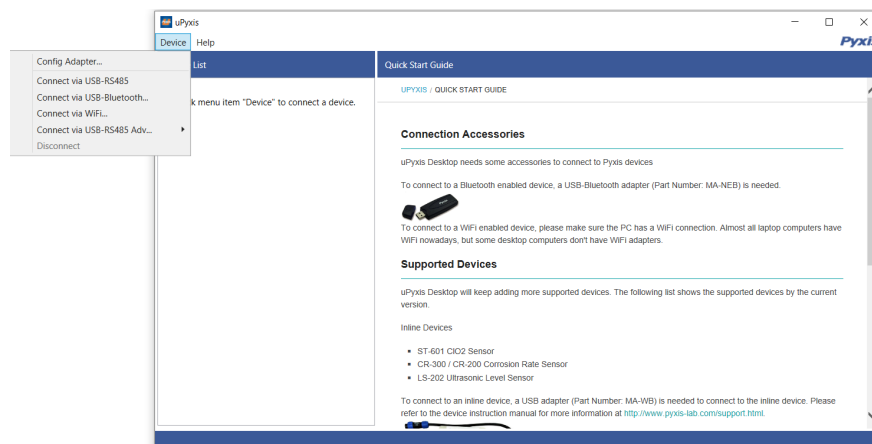

Figure 15.
3. On uPyxis® Desktop App, click Device → **Connect via USB-Bluetooth** (Figure 15).
4. If the connection is successful, the LT-73X Series and its Serial Number (SN) will be displayed in the left pane of the uPyxis® window.